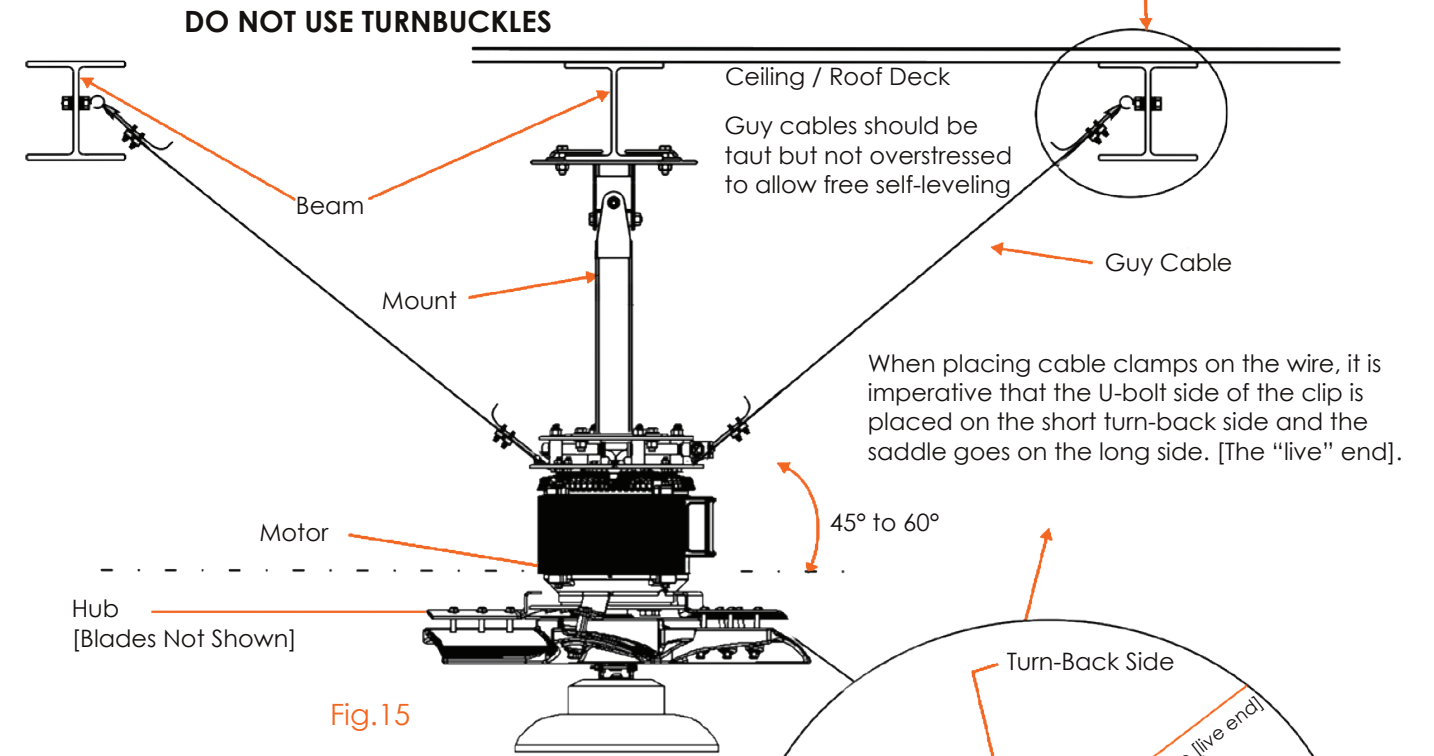
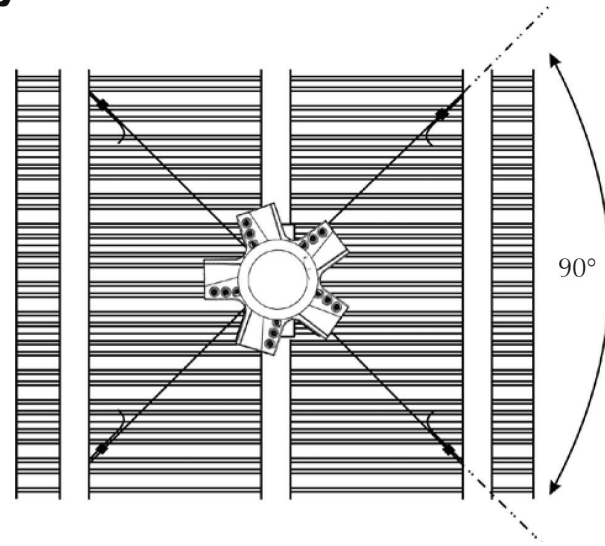

Fig.15
Fig.17
Structural Note: Guy cables must be installed or fastened to a structural component of the building at the angle shown in Fig.15 and Fig.17.
2. Install eye bolt with nuts and washers in I-Beam as per Fig.15.
5. Guy wires should be taut but not over-stressed to allow free self-levelling. They should also be approx. 90° apart [Fig.17].